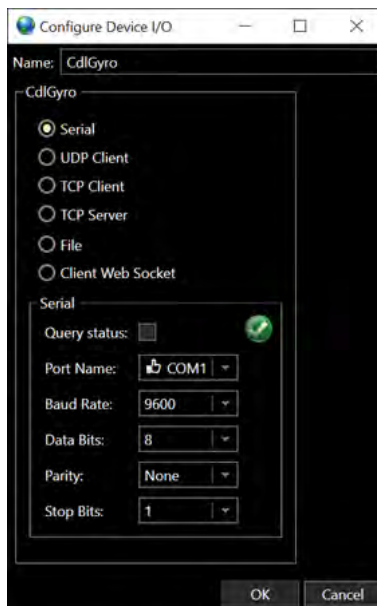

FIGURE 5-4 CONFIGURE DEVICE I/O
4. Click the  button, the Configure Device I/O dialog will open. See Figure 5-4